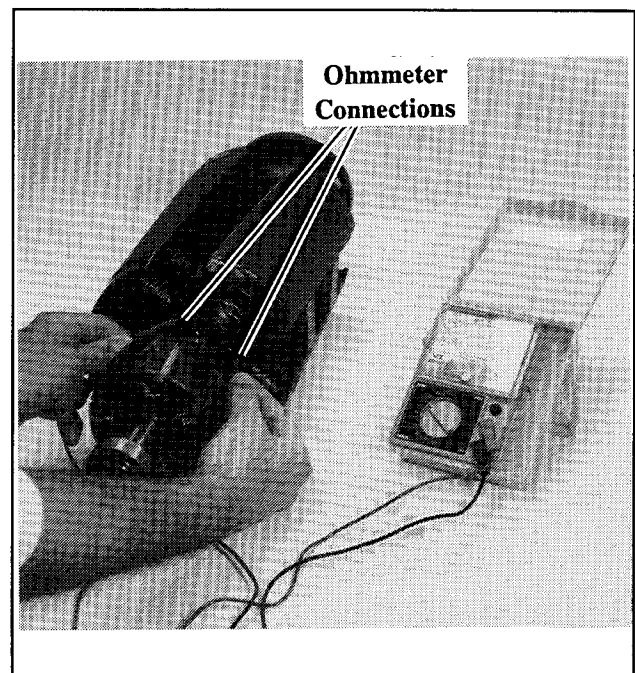

**Figure 8-18. Testing Rectifier Module**
2. Using an ohmmeter on the R x 100 scale, check resistance between rectifier diodes (as shown in Figure 8-18. To test CR3, for example, place ohmmeter leads on rectifier terminals B3 and B4. The ohmmeter should show a low resistance in one direction and, upon reversing ohmmeter leads, a high resistance in the other direction. Replace the rectifier module if any of the diodes tests different than described.